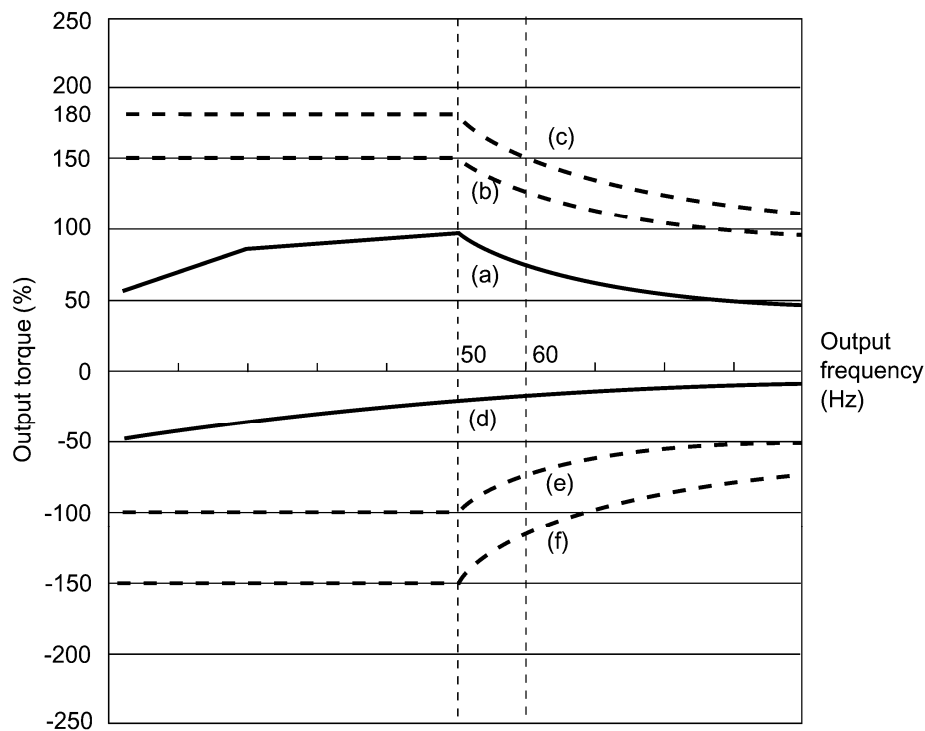

Figure 7.1 Output Torque Characteristics (Base frequency: 50 Hz)
Figures 7.1 and 7.2 graph the output torque characteristics of motors at the rated output frequency individually for 50 Hz and 60 Hz base. The horizontal and vertical axes show the output frequency and output torque (%), respectively. Curves (a) through (f) depend on the running conditions.
**(1) Continuous allowable driving torque (Curve (a) in Figures 7.1 and 7.2)**
**(2) Maximum driving torque in a short time (Curves (b) and (c) in Figures 7.1 and 7.2)**
**(3) Starting torque (around the output frequency 0 Hz in Figures 7.1 and 7.2)**
#### (4) Braking torque (Curves (d), (e), and (f) in Figures 7.1 and 7.2)